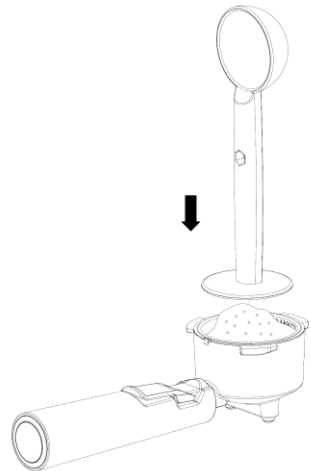

**Fig. 4**
2. Rotate the filter a small way to help prevent the filter from falling out of the holder when emptied (fig.4).